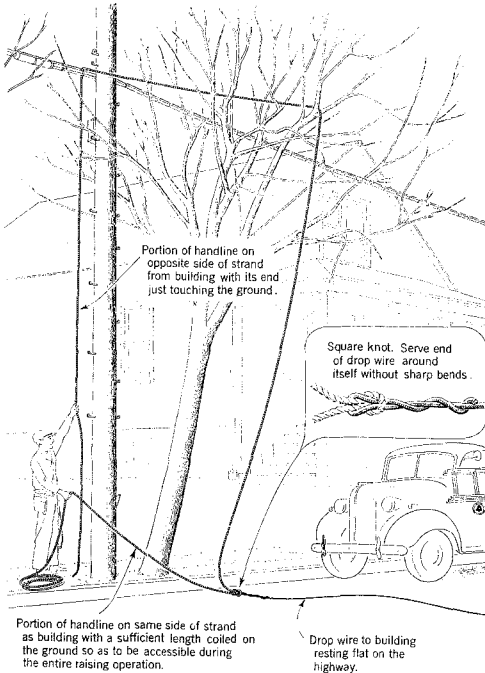

Fig. 5 – Drop Wire Tied to Handline
(1) When placing the handline over the strand, guard arm, drive hook, or crossarm, locate it among the branches of the tree as illustrated in Fig. 5, in order that the drop wire may be raised to the
(b) Tie the end of the drop wire to the handline as shown in Fig. 5 at a point in that portion of the handline toward the building which will permit the employee to have access to both ends of the handline from his position on the ground during the entire raising operation.